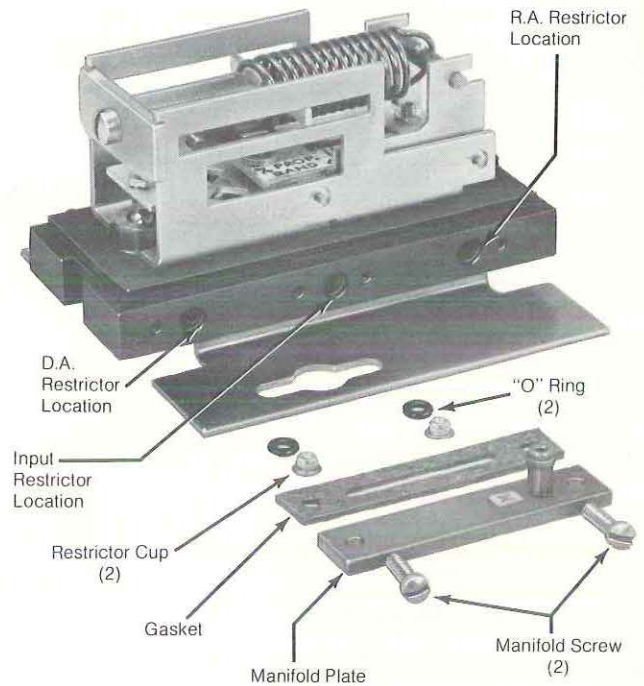

Figure 8.
2. Remove main air manifold (Figure 8).
3. Remove restriction cup and "O" ring from D.A. restrictor location (Figure 8) by prying on side of restrictor cup with small blade screwdriver or knife blade.